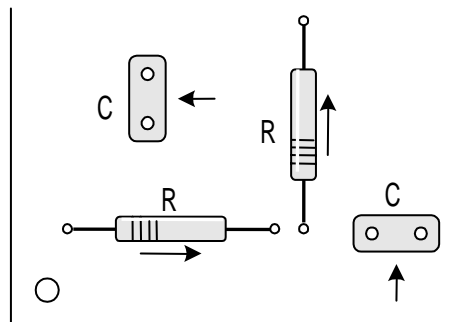

Fig. 1-2
- Parts other than those above (film capacitor, ceramic capacitor and resistor) shall be mounted in a way that their rating can be read from the bottom upward and left to right (Fig. 1-2).
- The capacitor (C) shall be mounted in a way that the rating can be read in the direction of the arrow.
- The resistor (R) shall be mounted in a way that the color code (or the rating) can be read in the direction of the arrow.